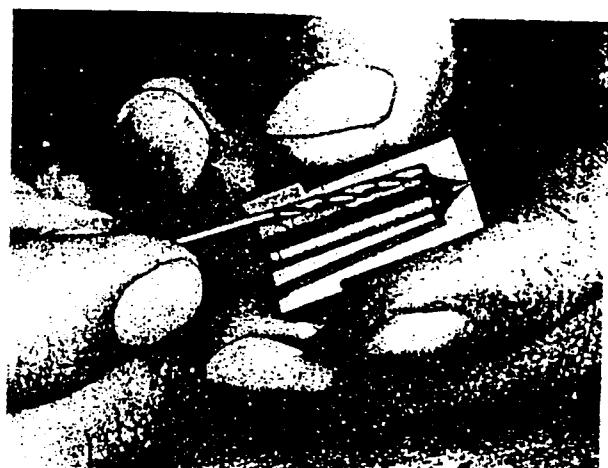

FIG. 127
2. Clean out the three drillings that feed the lower reservoir in the nozzle body either with a piece of wire or a No. 51 twist drill (0.66" dia.), see Fig. 127. These bores are rarely choked and the insertion of the drill or wire by hand will be sufficient. If, however, they do contain a heavy carbon deposit, it is advisable to use a  $\frac{1}{16}$ " diameter drill, also by hand, first.